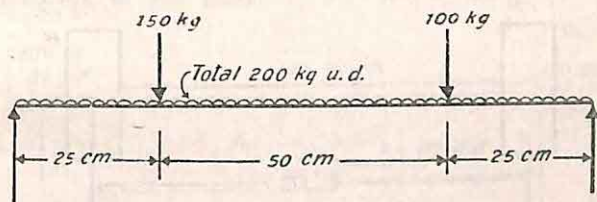

Fig. 75
9. A simply supported beam, 2.5 cm wide  $\times$  5 cm deep, is loaded as shown in Fig. 75. Calculate the frequency of its natural transverse vibration.  $E = 2 \times 10^6 \text{ kg/cm}^2$ . (Engineering Services, 1967)